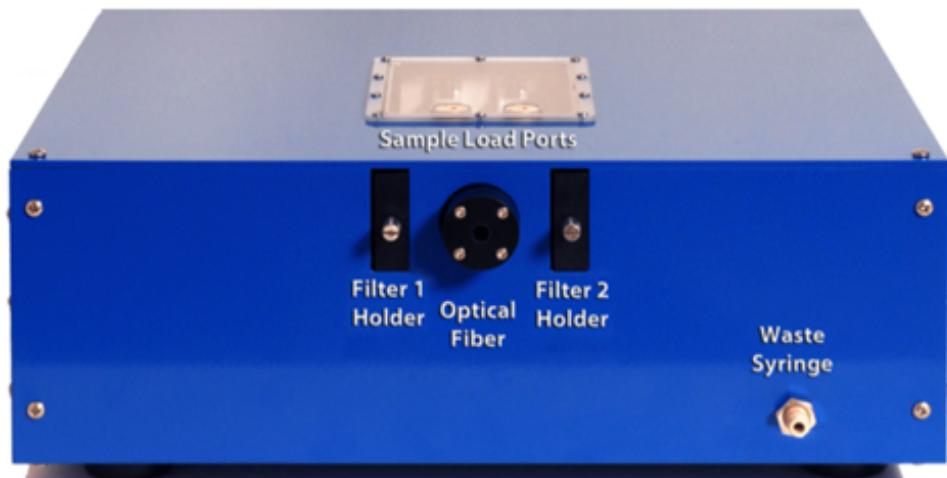

Figure 4: Optical fiber and Sliding Filter Holders
7. Insert the optical fiber cable into the holder on the exit slit of the monochromator and insert the other end into the AutoSF (*Figure 4*). In each case, there is an o-ring to hold the optical fiber in place. Push the optical fiber end into the holder until it hits bottom.
Figure 4: Stopped-Flow Main Screen. This figure shows the main screen of the Stopped-Flow program. The window is divided into a Control Panel on the left and a Graphics Panel on the right. Across the top of the frame there is a row of buttons to jump to each control panel submenu and mini-panels to readout the status of each data of the three data collection channels. All functions can be accessed through the scrolling through or jumping to expandable menus in the control panel.
The program is written such that all of the commands are accessible at all times through the scrolling expandable menus on the control panel seen in the left side of Figure 4. Specific submenus can be accessed quickly using the buttons along the top of the screen. The use of most commands should be readily apparent.
For Absorbance measurements, set the monochromator wavelength and then turn on PMT3. For Fluorescence measurements, the excitation wavelength is selected on the monochromator and a filter (25.4mm diameter) is placed in front of PMT 1 or PMT 2 to observe emission (*Figure 4*). Make sure the power is off to the PMT before removing the filter holder (click on the *PMT On* button to turn off the HV).